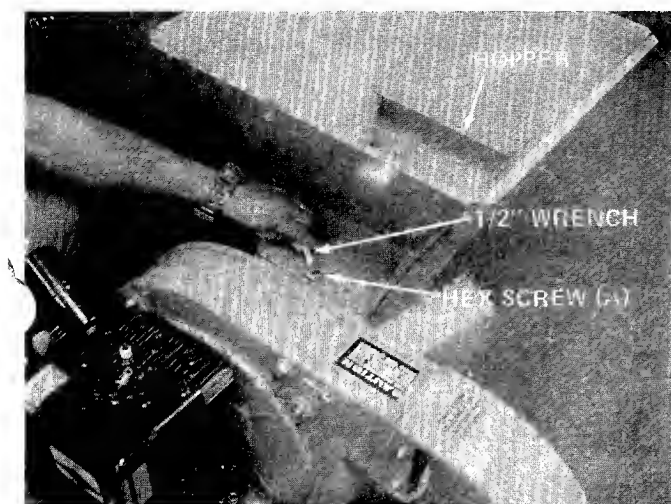

FIGURE 4
4. Place the hopper on the shredder. Start all three self-tapping screws (A) by hand, then tighten with a 1/2" wrench. See figure 4.